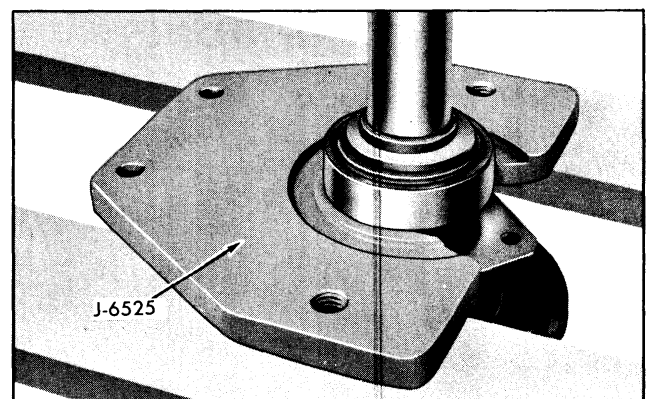

Fig. 4-16 Pressing Bearing From Axle
- a. With tool J-947-P engaging outer race of bearing and ring enclosing bearing (Fig. 4-16), press shaft from bearing using arbor press.